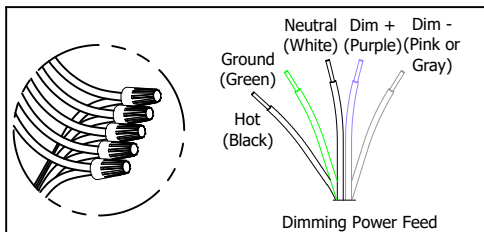

Fig. 1 Wiring details.
1. Install support/power feed canopy (supplied with the fixture) to the junction box (by others). Splice power cord wires to the building wiring. Single circuit dimming splicing shown on Fig. 1 as a sample. Refer to 150-000046 and submittal drawing if supplied. Obey electrical codes and rules.